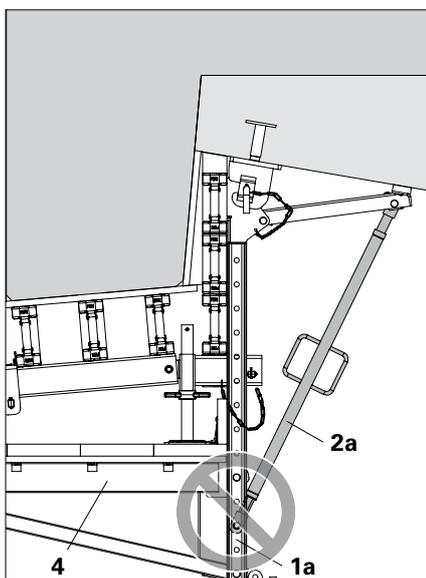

Fig. A4.01c
- Never attach the Kicker AV 82 (2a) between the fixing points of the Platform Cantilever Beam VGK 170 (4). (Fig. A4.01c)